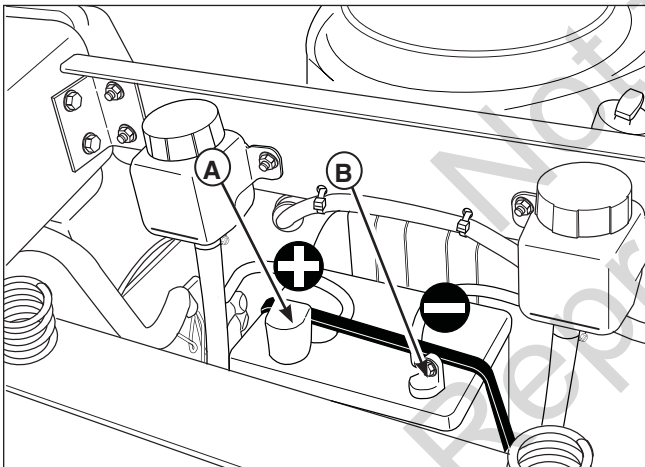

Figure 29. Battery Maintenance
1. Disconnect the cables from the battery, negative cable first (B, Figure 29).
3. Reinstall the battery and reattach the battery cables, positive cable first (see A, Figure 29)